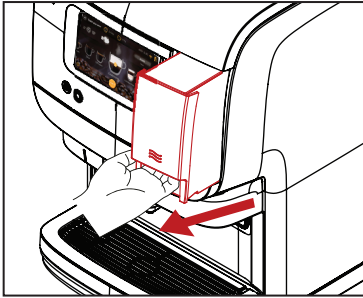

Fig.1
1. Remove the water tank by lifting slightly, then pulling straight out. (See Fig.1)